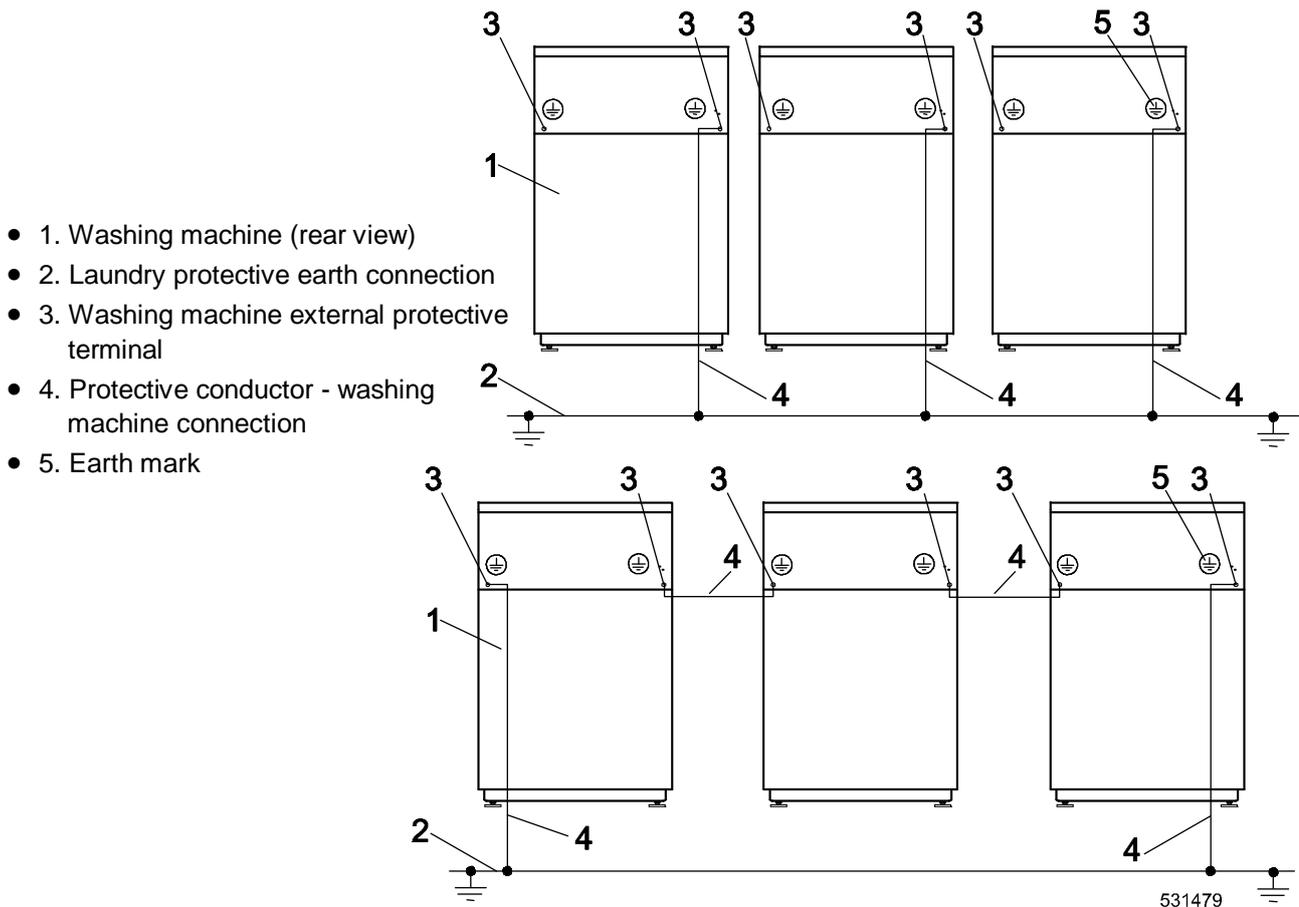

Figure 30
- Independent of the supply cable, the washer must be connected to the laundry protective earth system with a separate conductor. The protection conductor, enabling this connection, is not included with the washer. If there are other washers/appliances with exposed conductive parts, which can be touched simultaneously, make sure to make equipotential bonding between all these appliances. The external protective terminal for this purpose is located on the rear panel of the machine frame, figure 30, pos.3. The minimum protection conductor's cross section depends on the supply cable cross section and can be found in table 24. However, for the protection purposes with the supply cable section of min. 4 mm2 we recommend to select a larger conductor section, i.e. 6 mm2.